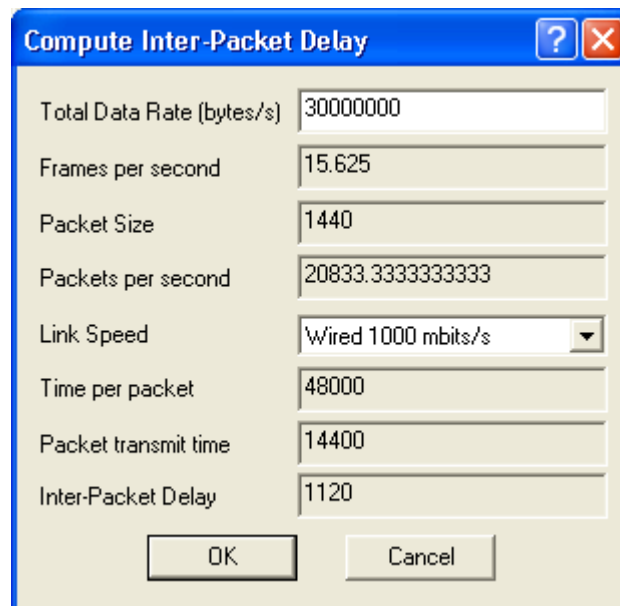

Figure 11: Inter-Packet Delay Computation Dialog
- **Compute:** Invokes the inter-packet delay computation dialog, which is shown in Figure 11. This dialog allows users to select the best inter-packet delay for the communication link and required throughput.